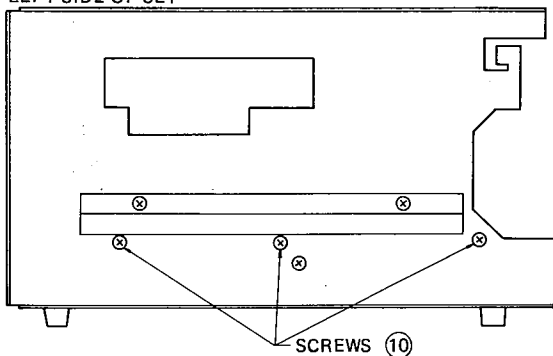

Fig. 5
- 4) Remove the 3 Magazine Mechanism Ass'y fixing screws (10) on the left side of the unit shown in Fig. 5.